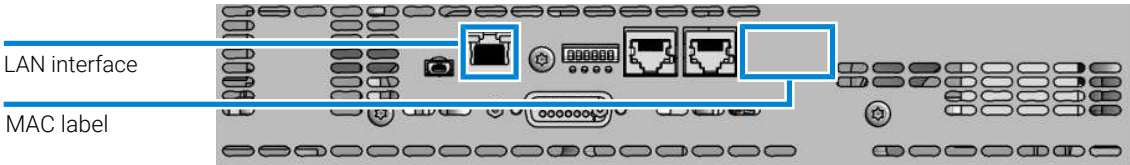
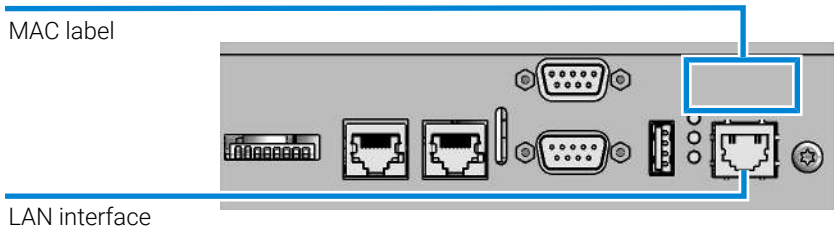

Figure 11: Location of LAN interfaces and MAC label (board with 6-bit configuration switch)
Figure 12: Location of LAN interfaces and MAC label (board with 8-bit configuration switch)
- 1 Note the MAC (Media Access Control) address for further reference. The MAC or hardware address of the LAN interfaces is a world wide unique identifier. No other network device will have the same hardware address. The MAC address can be found on a label at the rear of the module (see Figure 11 on page 114, or Figure 12 on page 114).